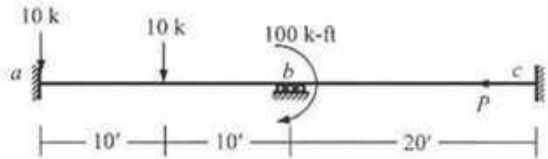

Fig. 6(ii)
7. Consider flexural deformations and geometric nonlinearity to calculate the joint deflections and rotations of the beam  $abc$  shown in Fig. 6(i), if  $P = 300$  k.